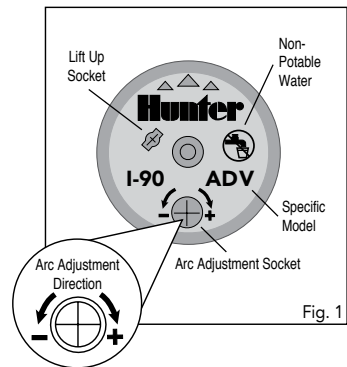

Fig. 1
1. Insert the plastic key end of the Hunter wrench into the adjustment socket (Fig. 1 & 2).
1. Insert the key end of the Hunter wrench into the adjustment socket (Fig. 1 & 2).